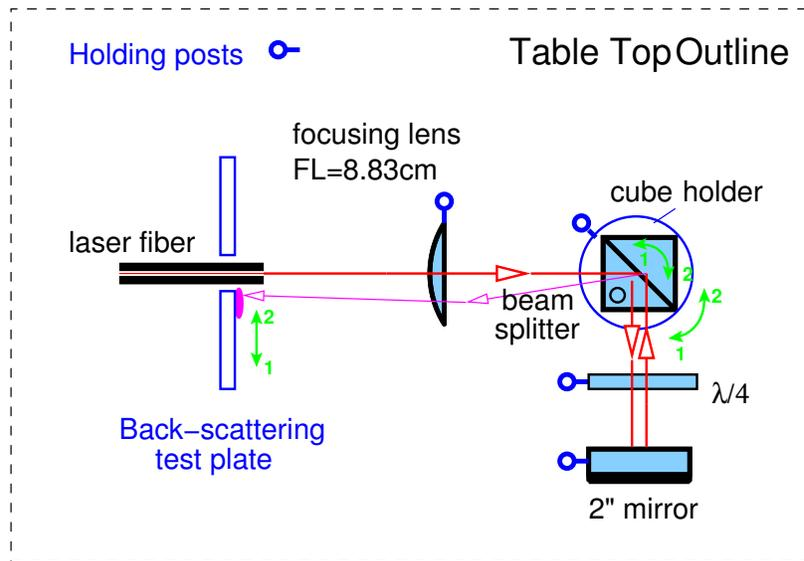

Figure 1.3: Adjusting back-scattering light
1. Moving the spot to the left (viewing towards fiber): Rotate cube holder clockwise (viewing from the top), then rotate cube (relative to its holder) anticlockwise. Keep the spot at the center of 2" mirror. See Fig. 1.3